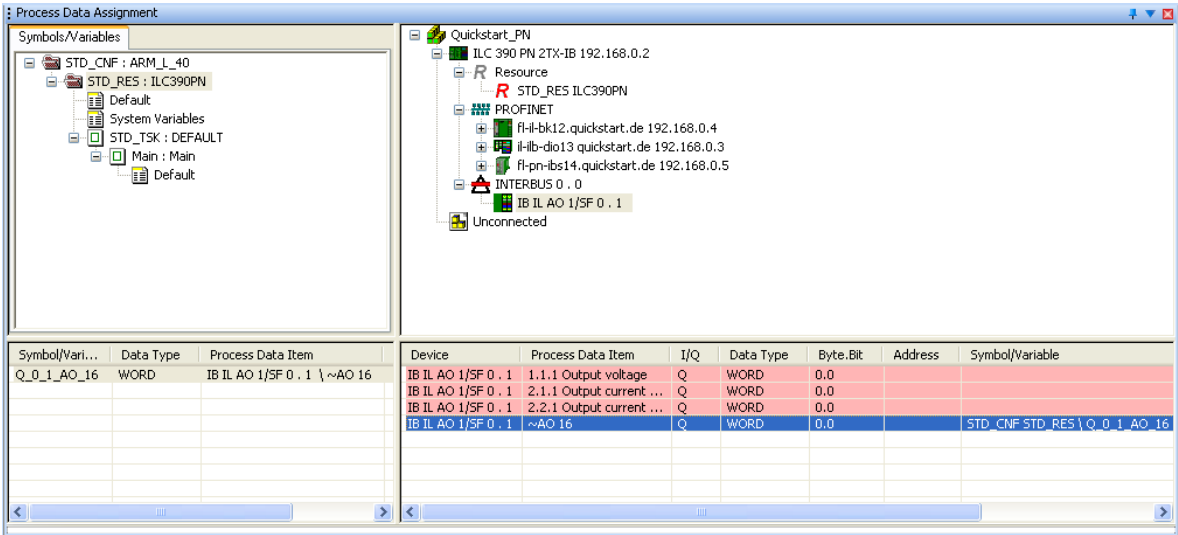

Figure 4-19 Variable generated for process data item "\~AO 16"
- In the top left window, select the resource or program (in Figure 4-19: resource "STD_RES: ILC390PN").
- Select the process data item for which you would like to generate a variable (~AO 16 in Figure 4-19).